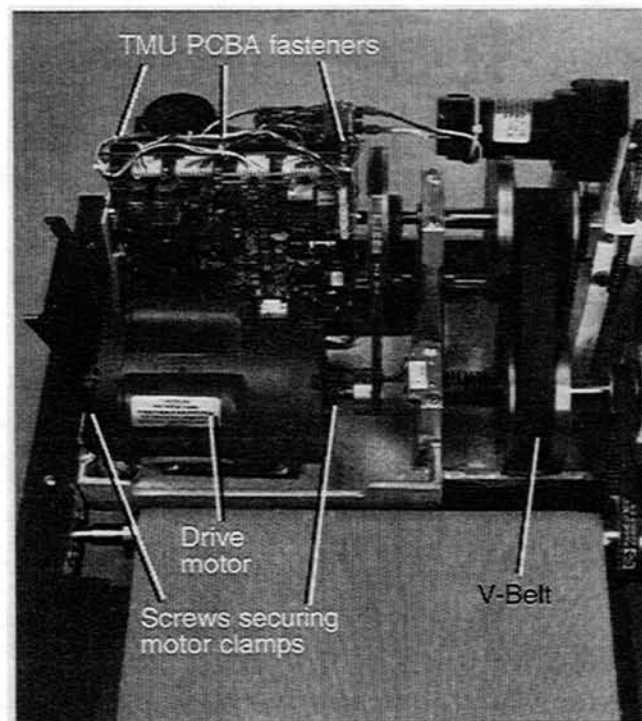
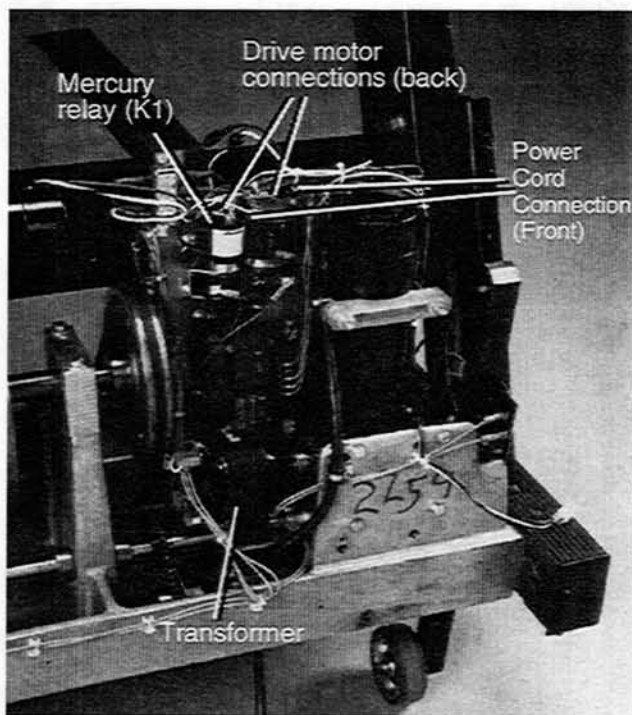

Figure 3-5. Drive Motor
Figure 3-6. Drive Motor (Mercury) Relay (K1)
4. Remove the screws which attach the power leads to mercury relay K1. Note the wire colors and connection points (Figure 3-6).
3. Disconnect the wires from mercury relay K1. Figure 3-5 shows the drive motor, while Figure 3-6 on page 3-4 shows the relay.
2. Note the color and arrangement of wires to the mercury relay. See Figure 3-6.
2. Remove one clamp from each side of the drive motor that secure it to the motor base plate (Figure 3-5 on page 3-3).